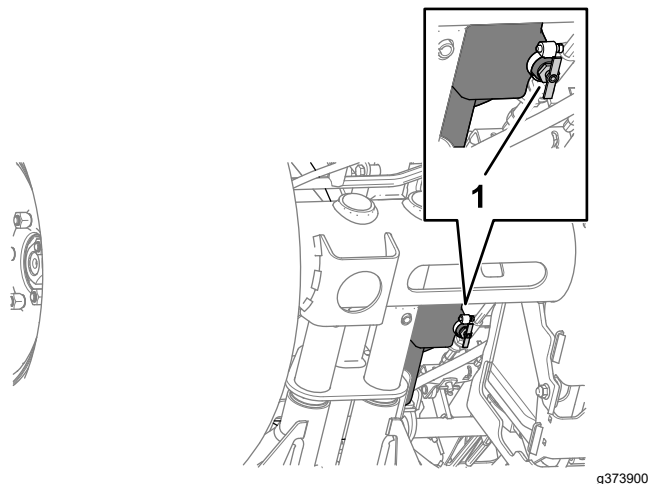

Figure 86
2. Align a drain pan under the fuel tank-drain valve (Figure 86).